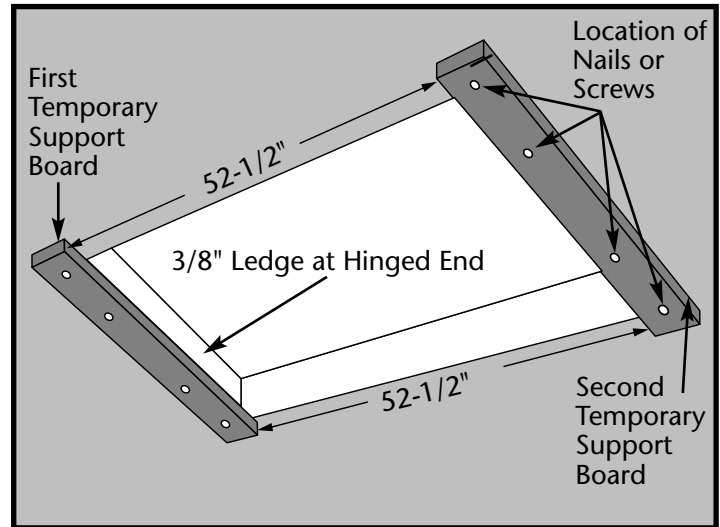

Figure 20. View From Below
STEP 1. Using four nails, attach a 1" x 4" x 36" board (temporary support board) at the end of the rough opening where the hinged end of the access ladder will be. This temporary support board must form a 3/8" ledge across the rough opening (Figure 20).
STEP 2. Using four nails, attach the second temporary support board to the other end of the rough opening so that the temporary support boards are 52-1/2 inches apart (Figure 20).
Before Proceeding: You must have temporary support boards at both ends of the frame as shown in Figure 20.